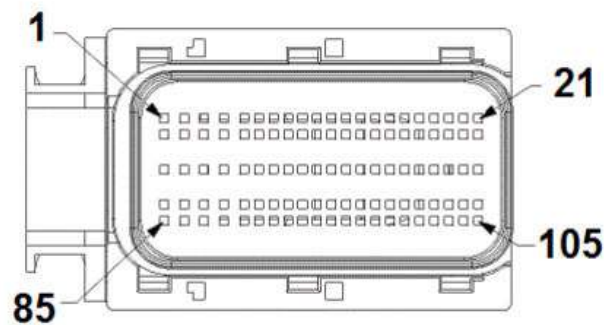

Fig. 5
11. Locate pins 37, 52 and 51 of the PCM C2 connector Fig. 5.